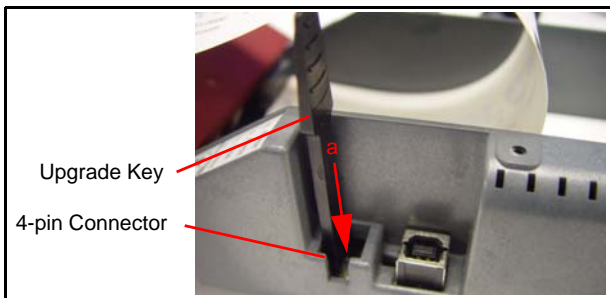

Figure 10 Inserting Upgrade Key in 4-pin Connector (Right side)
- 2. Insert the Upgrade Key into the 4-Pin Connector (Figure 10 a).*